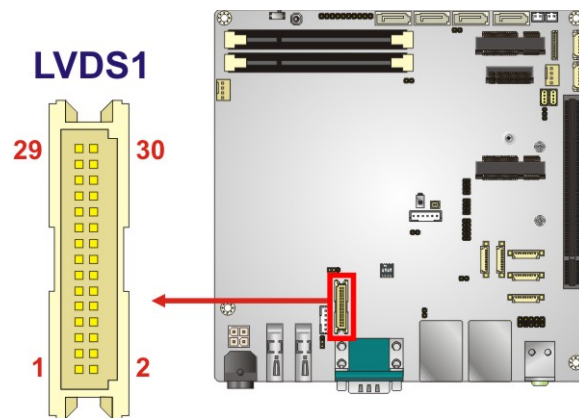

Figure 3-12: LVDS Connector Location
- CN Location:** See **Figure 3-12**